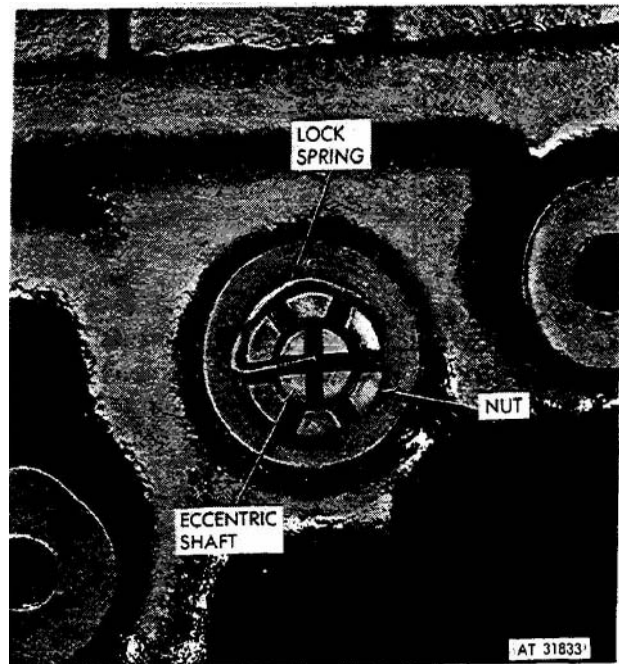

Figure 3-37. Reverse idler gear adjustment.
(4) Hold eccentric shaft (fig 3-37) in adjusted position and tighten nut to 40 lbs-ft. torque or slightly higher until nearest slot in nut aligns with one of slots in eccentric shaft. Install lock spring to engage both eccentric shaft and nut.
*b. Install Transmission Cover.* (Refer to f. (45) above.)